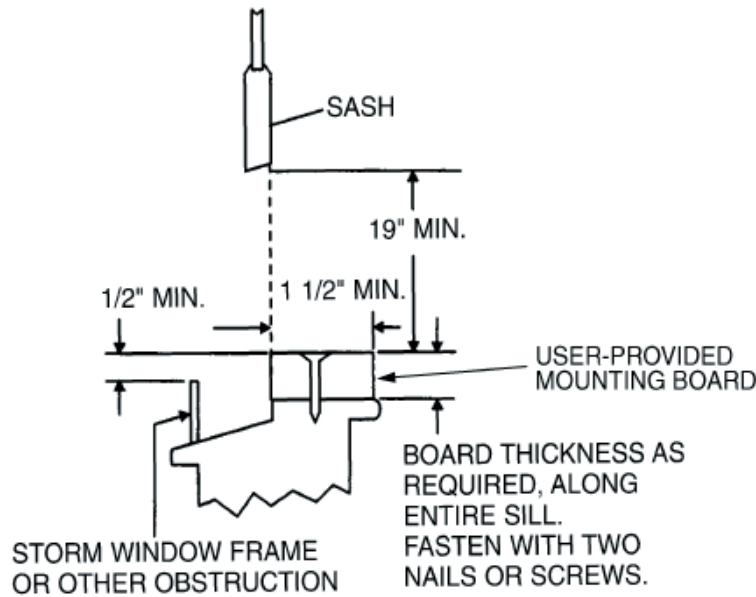

Fig. 21 – Storm Window Applications
The frame of the storm window (or any other obstruction) must be at least 1/2". lower than the window sill. If the storm window frame is not at least 1/2". below the window sill, then a mounting board will need to be added to raise the height of the window sill (see Fig. 21). The board will need to be provided and cut by the installer.
1. The wood mounting board should be a minimum of 1-1/2" wide and should run the length of the window. The thickness of the mounting board is dependent on the height of the storm window frame. The mounting board should raise the front of the air conditioner high enough so that the unit will be pitched downward at least 5/8" when the back of the unit is resting on the storm window frame. See Fig. 21.